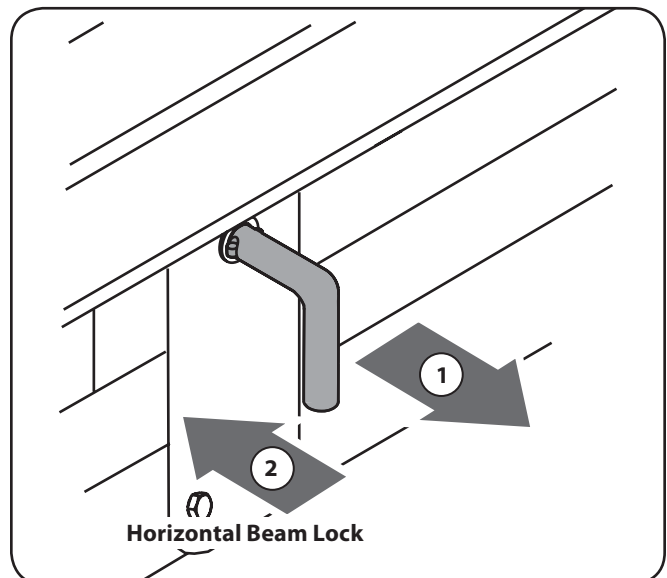

Figure 5-3
- b. The horizontal beam lock is self-locking. The spring loaded lock will snap into place when the beam is lowered into position. See Fig. 5-3.